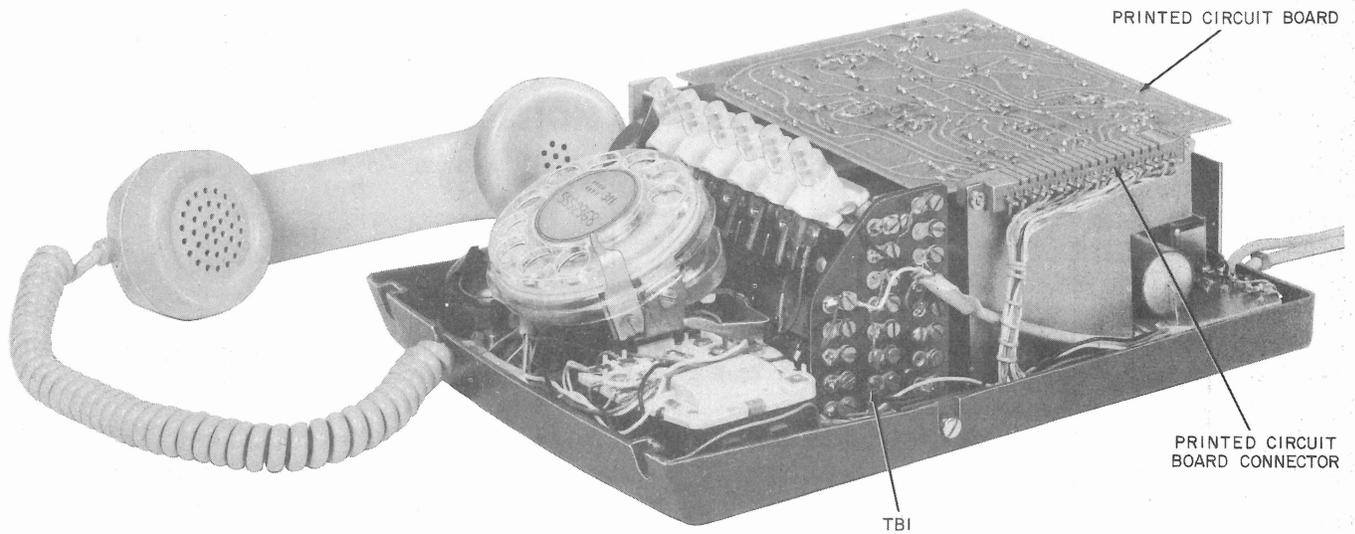

Fig. 1—Data Set 603A1—Covers Removed
2.01 Options for the data set must be specified on the service order. Connect the options as shown in Table A. The connections are made on terminal board TB1. The location of TB1 is shown in Fig. 1, which illustrates data set 603A1; however, it is also applicable to data set 603A2.